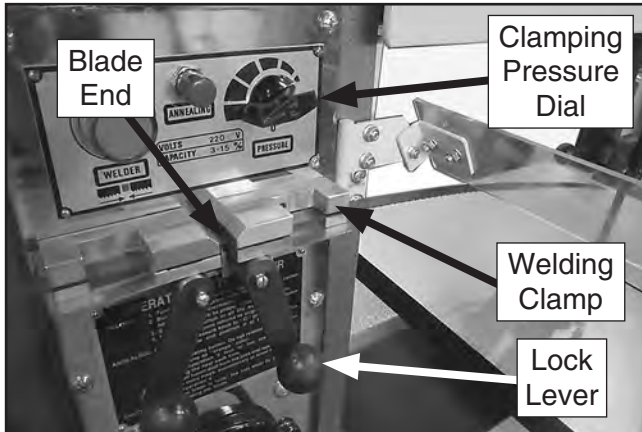

Figure 46. Blade end properly positioned in welding clamp and locked in place.
4. Turn the clamping pressure dial fully clockwise (see **Figure 46** on **Page 39**).
- Position the back of one blade end evenly against the back of the welding clamp so that the end is midway between the two clamps, then rotate the lock lever as far up as possible to hold the blade end in place (see **Figure 46**).